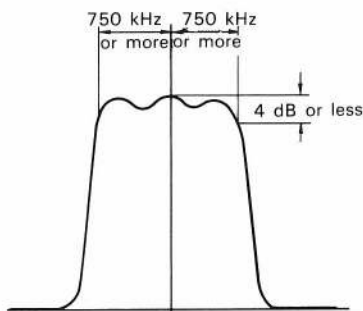

Fig. 42 Output waveform
- 3) Adjust T1 (red), T2 (yellow) and T3 (red) in PD unit until the output waveform becomes as shown in **Fig. 42**.